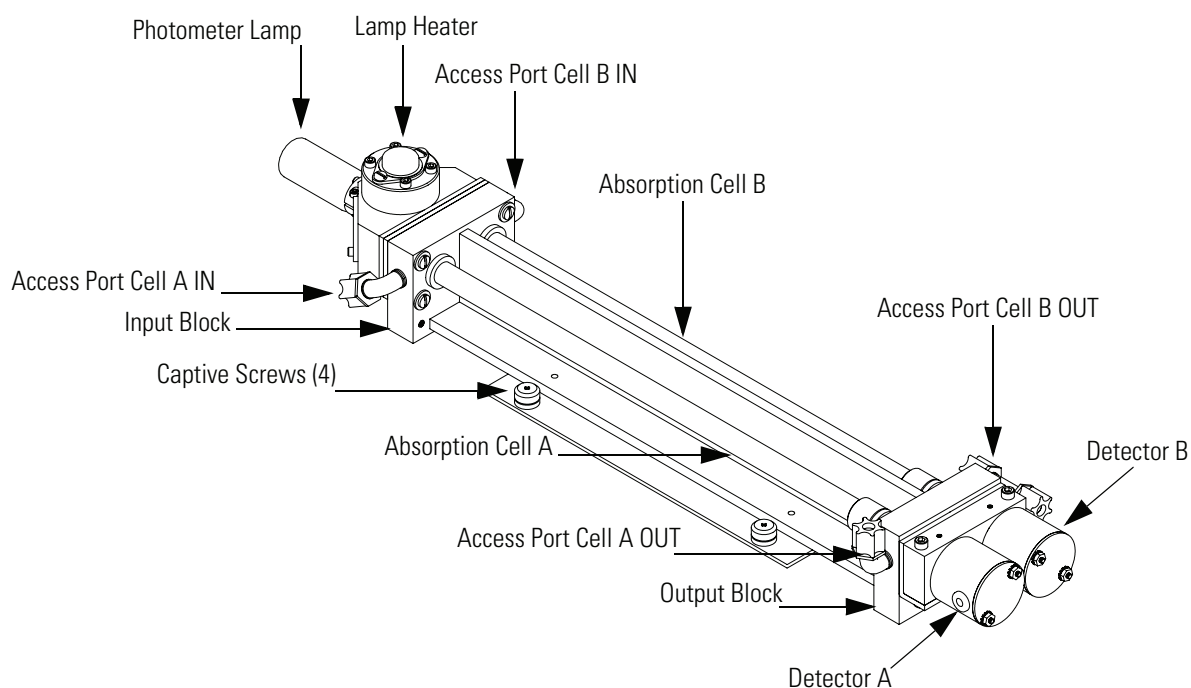

Figure 7-11. Replacing the Optical Bench
Use the following procedure to replace the optical bench (Figure 7-11).
4. Loosen the captive screws (4) securing the optical bench to the floor plate (Figure 7-11) and remove the bench by first moving the photometer slightly towards the rear through the lamp access hole and then lifting up and towards the front.
Use the following procedure to replace the photometer lamp (Figure 7-11).
Use the following procedure to replace a detector (Figure 7-11).